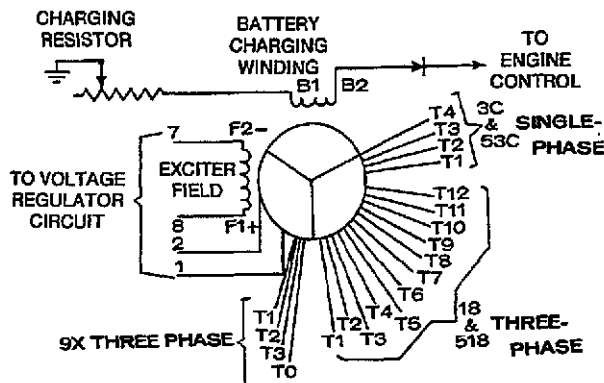

FIGURE 2. SINGLE AND THREE PHASE GENERATOR SCHEMATIC (COMPOSITE)
All generators have four wires extending from the stator housing in addition to the AC output leads, Figure 2. Lead B2 is from the battery charge winding and connects to terminal 7 of the engine control. Lead F1+ and F2- are from the exciter field winding and are connected to the output terminals of the voltage regulator. Leads 1 and 2 are connected to the stator windings and provide reference voltage and input power to the voltage regulator. These four leads are connected at the factory.
Figure 2 is a composite illustration showing four output leads for single-phase units, 12 output leads for 3-phase broad range units, and four output leads for code 9X 3-phase 347/600 volt generators.
1. The slide tap on adjustable resistor R21, located in the generator air outlet, should be set to give about 2 amperes charging rate, Figure 2. For applications requiring frequent starts, check battery charge condition (specific gravity) periodically and if necessary, increase charging rate slightly (slide tap nearer ungrounded lead) until it keeps battery charged. Having engine stopped when readjusting avoids accidental shorts. Avoid overcharging.